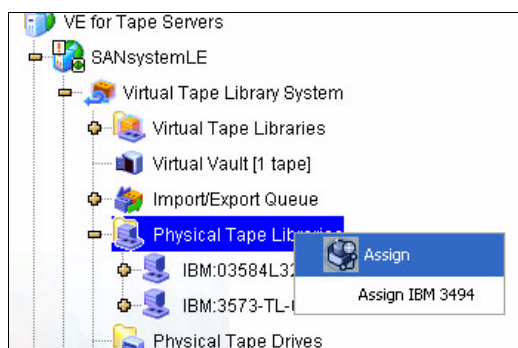

Figure 6-66 Discover new devices: Assign library
5. The newly discovered and prepared devices have to be assigned before they can be used. To assign new devices for use by a TS7530 VE for Tape Server, right-click **Physical Tape Libraries** and select **Assign**, as shown in Figure 6-66.